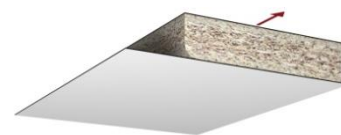

Figure 14
STEP 2: In the first section of the postforming machinery, the pressed part is progressed to its final profile shape by additional milling units. With the so-called L-profiles, only the rear side of the laminate is glued to the core board, while the front side of the laminate is milled to leave the required projection (see Figure 14).